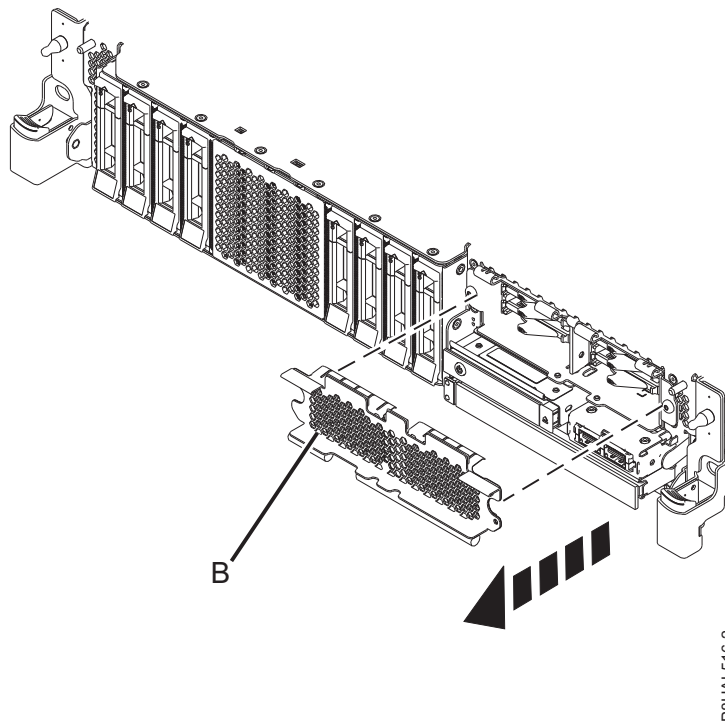

Figure 91. Removing the SSD cage cover to access the SSD slots in an expanded function system
10. To access the SSD slots, remove the perforated plate **(B)** covering the SSD cage as shown in Figure 91.